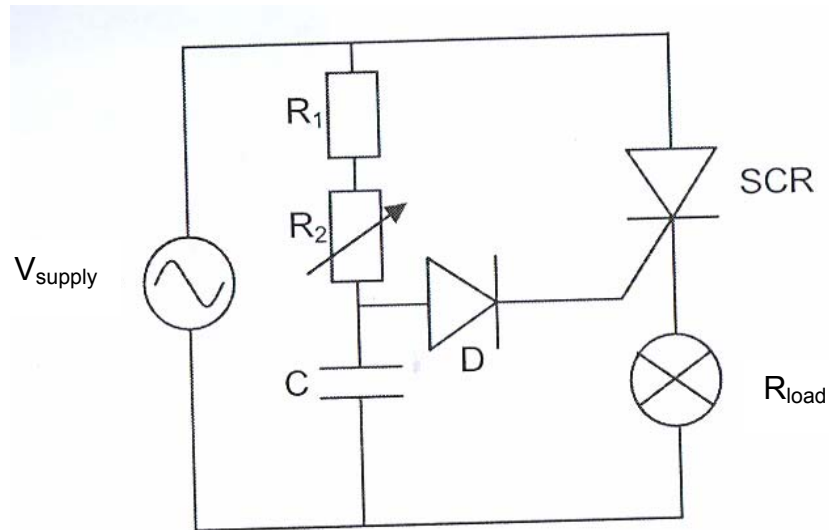

FIGURE 6.1: LAMP DIMMING CIRCUIT
- 6.5 Explain why the firing angle controlled by the RC network, can only be controlled up to 90° if the capacitor in FIGURE 6.1 below was replaced with a resistor.